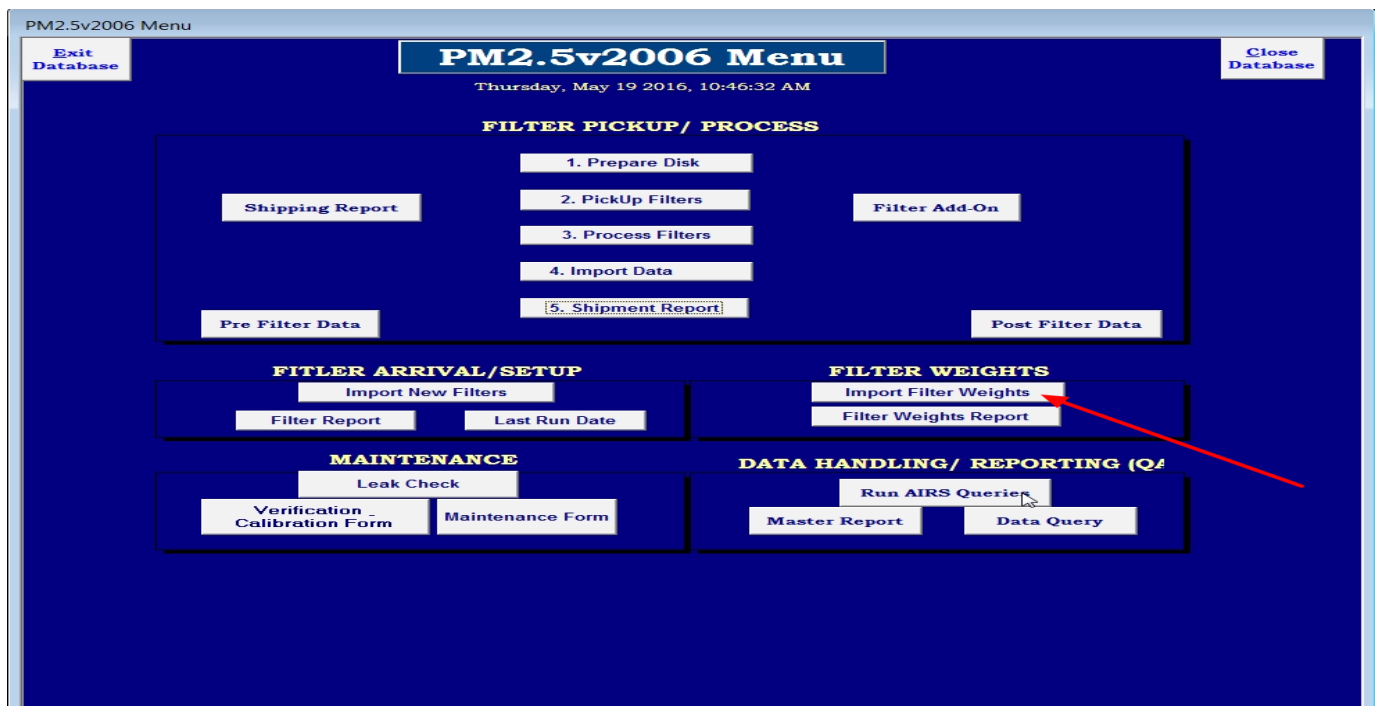

Figure 32: Import Filters Weights Button
6.5.1.4 Open Access (S:\PM2.5\DATABASE\PM2.5V2006) and press “Import Filter Weights” (see Figure 32).